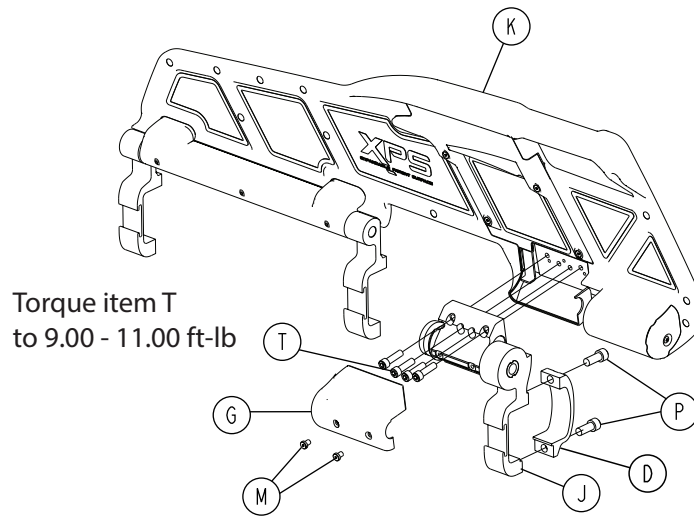

Figure 23 – Ratchet assembly components (XPS)
5. Using a 3/32" hex wrench, remove the two socket head cap screws (M) that secure the ratchet cover (G) to the ratchet assembly (J) (Figure 23). Remove and save the ratchet cover. Save the screws.
6. Using a 1/4" hex wrench, remove the socket head cap screws (P) that secure the siderail clamp (D) to the ratchet assembly at the foot end of the main assembly. Save the screws.
- Using a 3/16" hex wrench, remove the four socket head cap screws (T) that secure the ratchet assembly to the overmold assembly (K). Remove and discard the ratchet assembly. Save the screws.